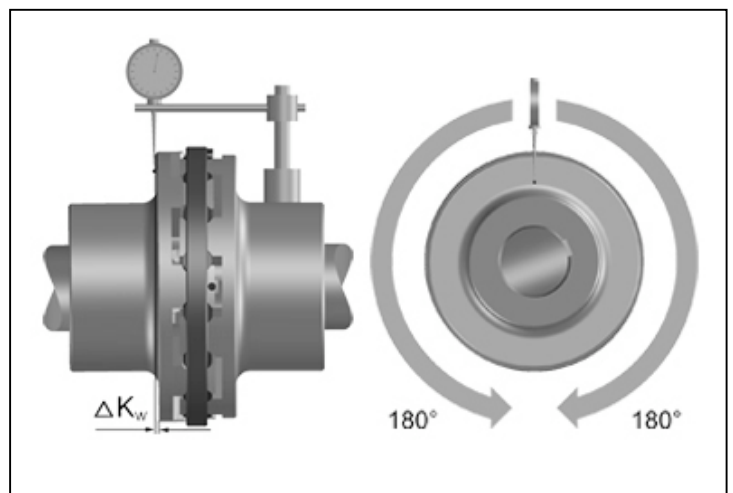

Fig. 6
- Measure one complete rotation (360°) on the face of the outer diameter. Determine the largest deviation K_{w1} and the smallest deviation K_{w2} (Fig. 6).